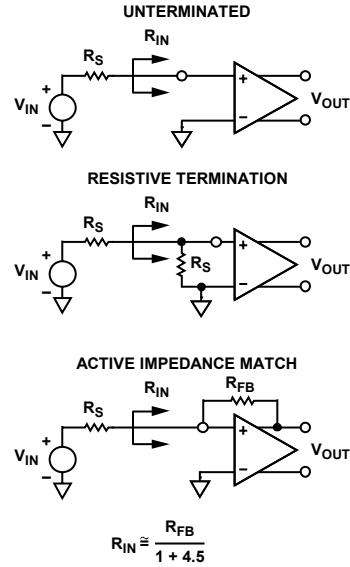
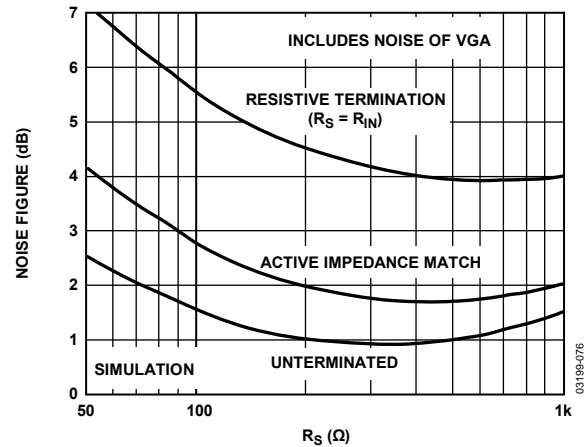
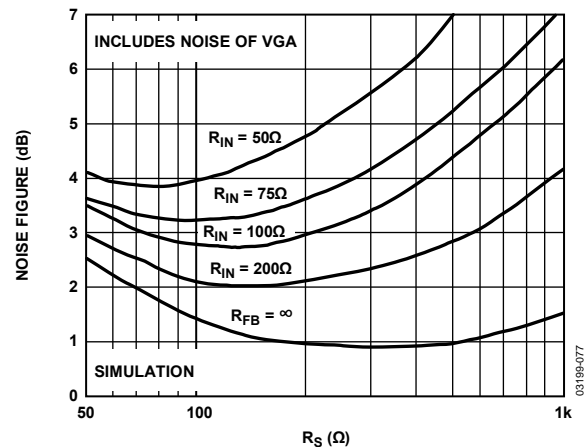

Figure 75. Input Configurations
Figure 76. Noise Figure vs.  $R_S$  for Resistive, Active Matched and Unterminated Inputs
Figure 77. Noise Figure vs.  $R_S$  for Various Fixed Values of  $R_{IN}$ , Actively Matched
The input-referred voltage noise sets an important limit on system performance. The short-circuit input voltage noise of the LNA is  $0.74\text{ nV}/\sqrt{\text{Hz}}$  or  $0.82\text{ nV}/\sqrt{\text{Hz}}$  (at maximum gain), including the VGA noise. The open-circuit current noise is  $2.5\text{ pA}/\sqrt{\text{Hz}}$ . These measurements, taken without a feedback resistor, provide the basis for calculating the input noise and noise figure performance of the configurations in Figure 75. Figure 76 and Figure 77 are simulations extracted from these results, and the  $4.1\text{ dB}$  NF measurement with the input actively matched to a  $50\text{ }\Omega$  source. Unterminated ( $R_{FB} = \infty$ ) operation exhibits the lowest equivalent input noise and noise figure. Figure 76 shows the noise figure vs. source resistance, rising at low  $R_S$ , where the LNA voltage noise is large compared to the source noise, and again at high  $R_S$  due to current noise. The VGA's input-referred voltage noise of  $2.7\text{ nV}/\sqrt{\text{Hz}}$  is included in all of the curves.
The primary purpose of input impedance matching is to improve the system transient response. With resistive termination, the input noise increases due to the thermal noise of the matching resistor and the increased contribution of the LNA's input voltage noise generator. With active impedance matching, however, the contributions of both are smaller than they would be for resistive termination by a factor of  $1/(1 + \text{LNA Gain})$ . Figure 76 shows their relative noise figure (NF) performance. In this graph, the input impedance was swept with  $R_s$  to preserve the match at each point. The noise figures for a source impedance of  $50\ \Omega$  are 7.1 dB, 4.1 dB, and 2.5 dB, respectively, for the resistive, active, and unterminated configurations. The noise figures for  $200\ \Omega$  are 4.6 dB, 2.0 dB, and 1.0 dB, respectively.
Figure 77 is a plot of the NF vs.  $R_s$  for various values of  $R_{IN}$ , which is helpful for design purposes. The plateau in the NF for actively matched inputs mitigates source impedance variations. For comparison purposes, a preamp with a gain of 19 dB and noise spectral density of  $1.0\ \text{nV}/\sqrt{\text{Hz}}$ , combined with a VGA with  $3.75\ \text{nV}/\sqrt{\text{Hz}}$ , yields a noise figure degradation of approximately 1.5 dB (for most input impedances), significantly worse than the AD8332 performance.